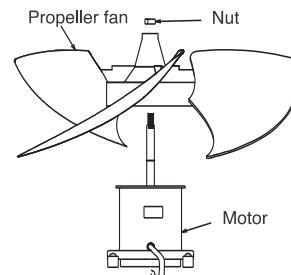

Fig.2
- C. Remove the nut, and remove the propeller fan, referring to Fig.2.